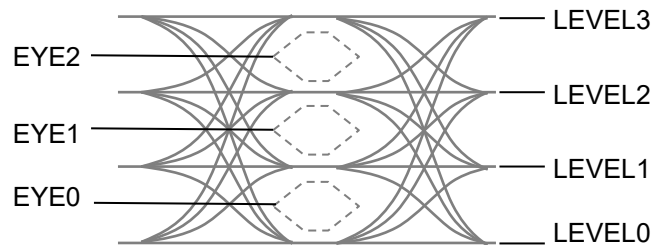

Figure 3.9.7-1 Positions of EYES and LEVELS
*: For the positions of LEVEL0 to LEVEL3, and EYE0 to EYE2, refer to Figure 3.9.7-1.